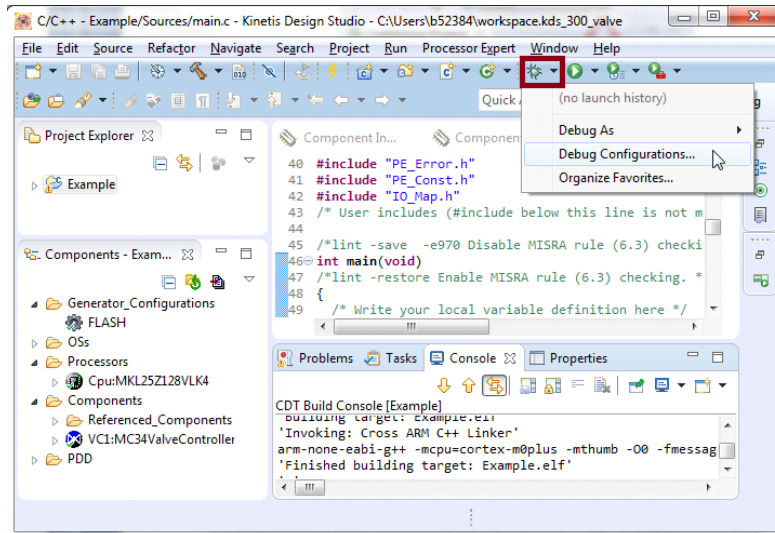

Figure 21. Downloading the Application (a)
1. Click the arrow next to the debug icon in the toolbar and select Debug Configurations... (see Figure 21)